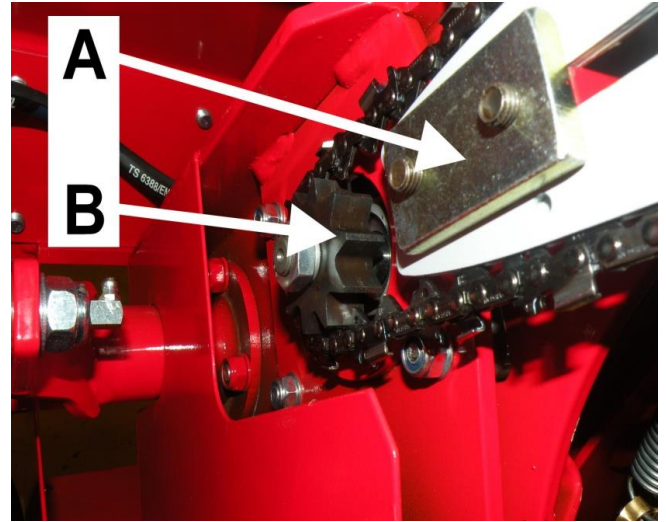

Figure 28.
3. Hinged nipples of the guard (2 pcs) in Figures 28 and 30.